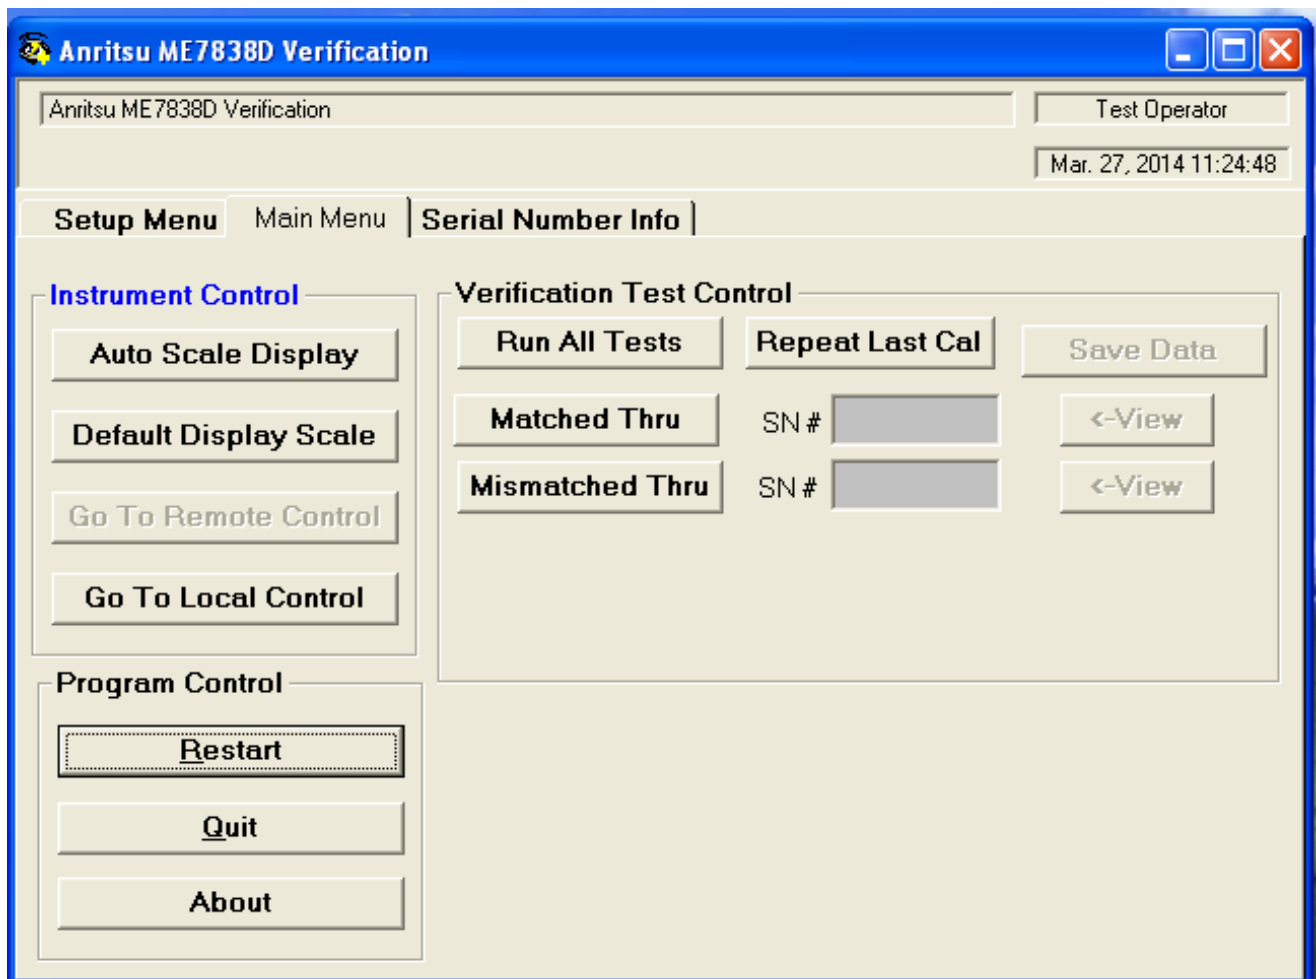

Figure 2-34. ME7838D Application Interface - Main Menu Tab
- The Main Menu tab display is described in the section immediately following and is shown below in Figure 2-34
9. If only the Matched Thru button was selected, the program returns to the “Application Interface – Main Menu Tab” on page 2-25. The dialog box is shown in Figure 2-34, “ME7838D Application Interface - Main Menu Tab” on page 2-25 above.
The dialog box is shown in Figure 2-34, “ME7838D Application Interface - Main Menu Tab” on page 2-25 above.